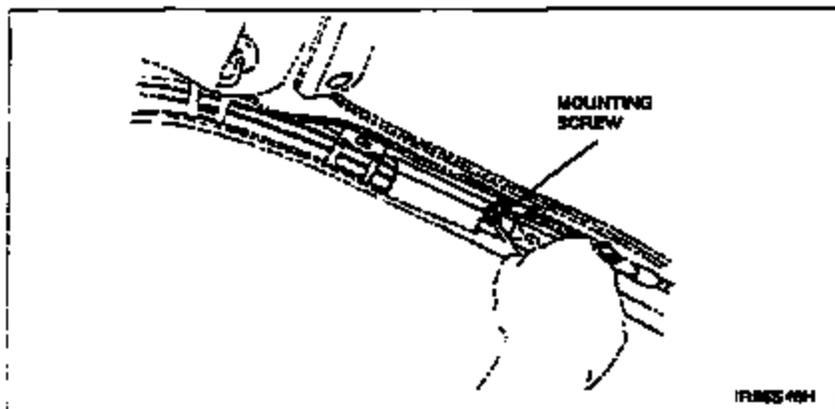

Figure 3
7. Remove the rail upper mounting screw. See Figure 3.